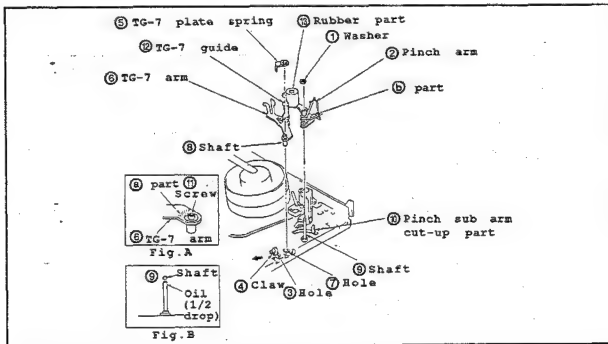

Fig.II-14
• Disassembling (Fig.II-14)
- (1) Set the unloading state.
- (2) To take off the pinch arm ②, remove the washer ①.
- (3) To detach the TG-7 plate spring ⑤, bend the claw ④ of hole ③ by using a thin screwdriver or equivalent.
- (4) Detach the TG-7 arm.
• Reassembling (Fig.II-14)
- (1) Apply the grease on the inside and the bottom surface of the hole ⑦.
- (2) Insert the shaft ⑧ of TG-7 arm ⑥ to the hole ⑦.
- (3) Apply the grease on the shadowed area ⑧. (Fig.A)
- (4) Insert the TG-7 plate spring ⑤ to the hole ③.